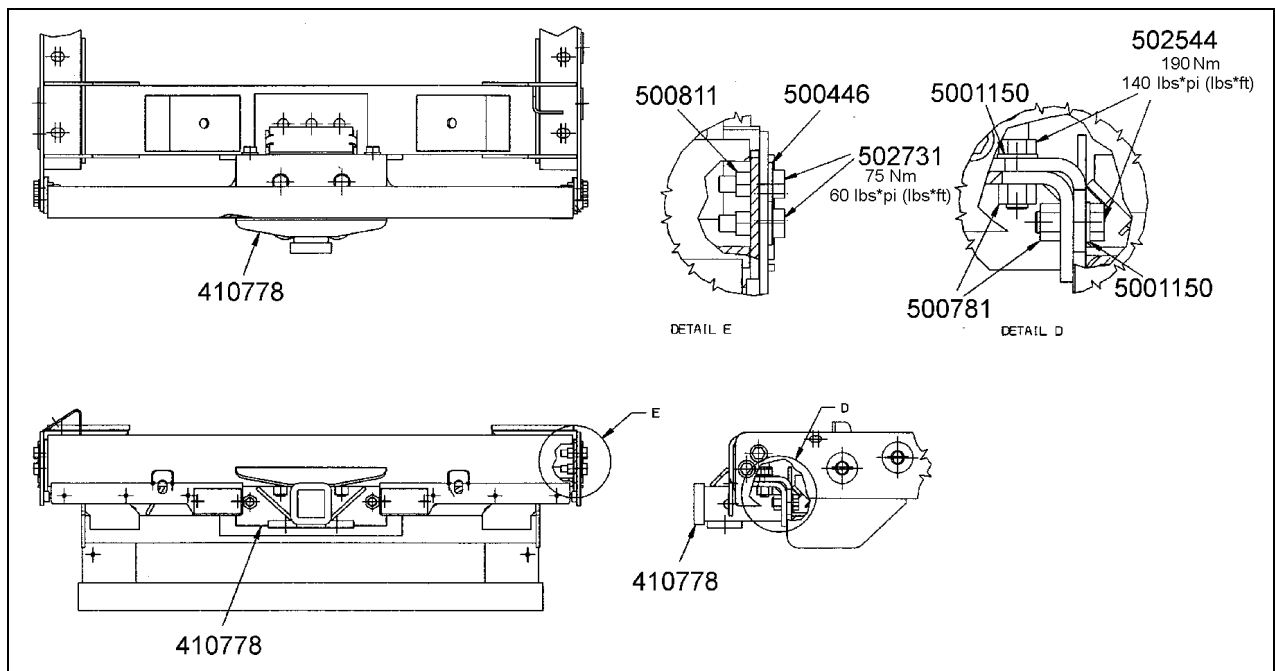

FIGURE 8 : TRAILER COUPLING DEVICE INSTALLATION
19. Install the new coupling device. Refer to figure 8 for hardware identification and proper tightening torque.